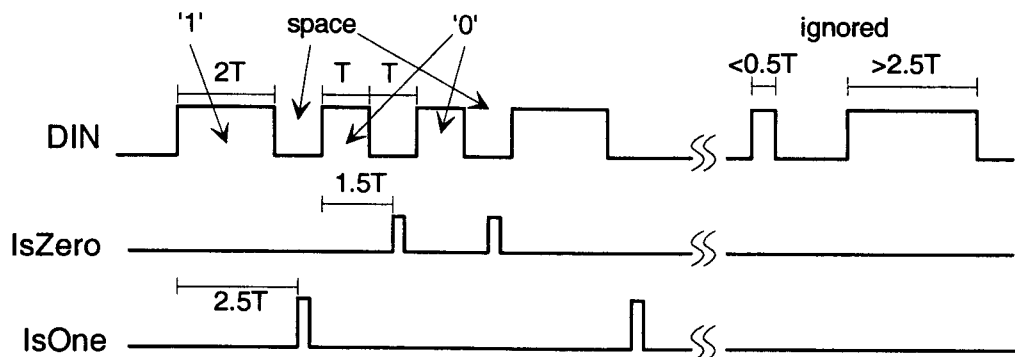

Figure 5.1
- 3) Each '0' or '1' bit is separated by a 'space' consisting of a low level signal lasting for a duration $\geq T$ as shown in Fig 5.1;
A circuit is required to decode such a data stream and produce two signals *IsZero* and *IsOne* corresponding to a '0' bit and a '1' bit respectively. If a zero is decoded, *IsZero* should go high for one system clock cycle $1.5T$ after the start of the '0' bit. If a one is decoded, *IsOne* should go high for one system clock cycle $2.5T$ after the start of the '1' bit. This is demonstrated in Figure 5.1.